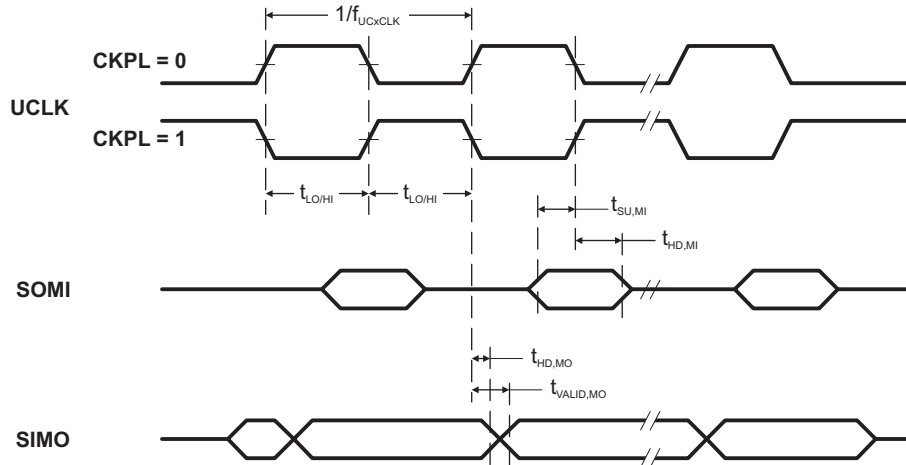
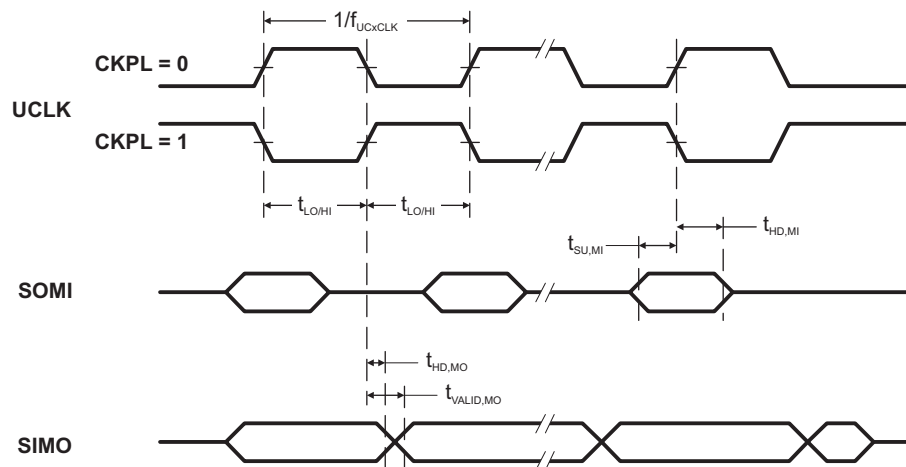

Figure 12. SPI Master Mode, CKPH = 0
Figure 13. SPI Master Mode, CKPH = 1
(see Note (1), Figure 12 and Figure 13)
- (2) Specifies the time to drive the next valid data to the SIMO output after the output changing UCLK clock edge. See the timing diagrams in Figure 12 and Figure 13.
- (3) Specifies how long data on the SIMO output is valid after the output changing UCLK clock edge. Negative values indicate that the data on the SIMO output can become invalid before the output changing clock edge observed on UCLK. See the timing diagrams in Figure 12 and Figure 13.
(2) Specifies the time to drive the next valid data to the SOMI output after the output changing UCLK clock edge. See the timing diagrams in Figure 12 and Figure 13.
(3) Specifies how long data on the SOMI output is valid after the output changing UCLK clock edge. See the timing diagrams in Figure 12 and Figure 13.